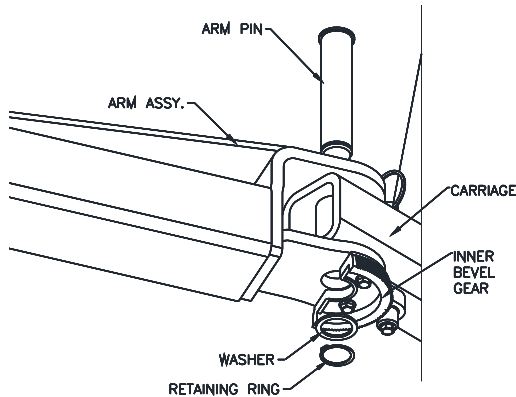

Fig. 17 –Arm Pin Keeper Install
- 48) Install the provided retaining ring onto the pin with tool, **Fig. 17**.